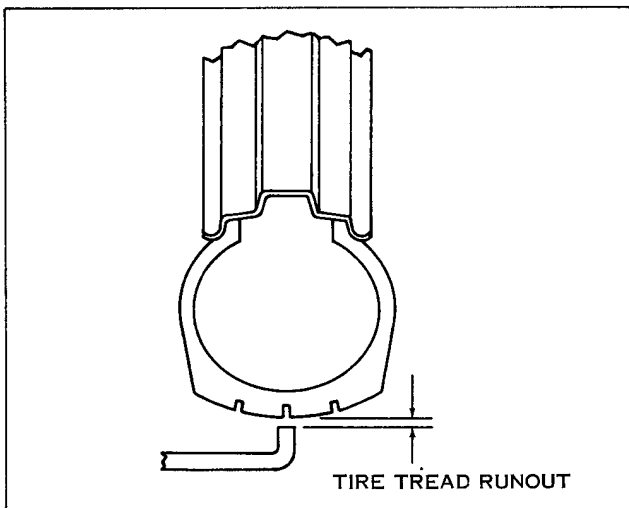

Figure 2-13. Checking Tire Radial Runout
1. Check runout by turning wheel on axle, measuring tread runout (see Figure 2-13).